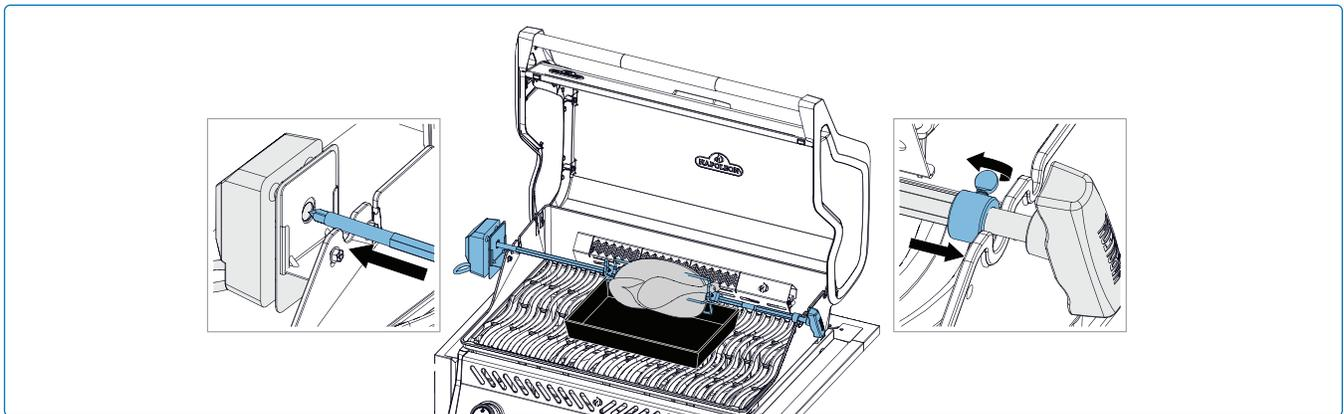

Fig. 5
4. Carefully insert the pointed end of the spit rod into the rotisserie motor and set the opposite end across the hangers. The heavy side of the meat will naturally hang down to balance the load (**Fig. 5**).
5. Slide the stop bushing onto the spit rod until it is past the inside of the hood. This will secure the side to side movement of the spit rod (**Fig. 5**).
6. Tighten the stop bushing and spit rod handle. Place a metal dish under the meat to collect the drippings (**Fig. 5**).